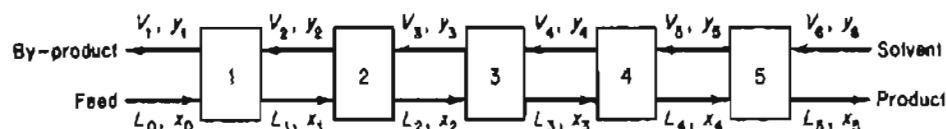

Figure P30.7
- 30.7** Set up decomposition schemes for the processes shown in Figure P30.7. What additional variables must be specified to make the system determinate if (a) the feed conditions are known; or (b) the product conditions are specified?